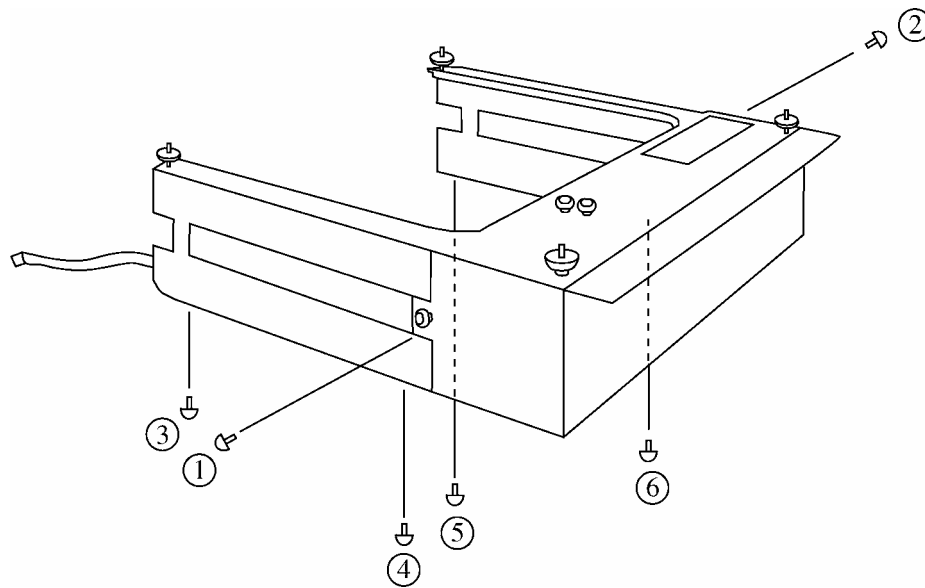
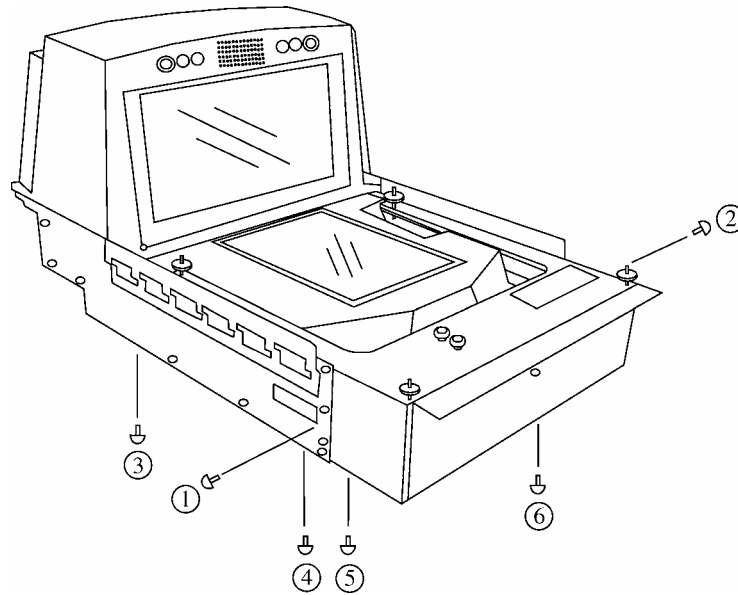

Figure 6.3-2
Figure 6.3-5
- (2) Remove and save left screw ① and right screw ②. (See Figure 6.3-2.)
- (3) Remove and save screws ③ to ⑥. (See Figure 6.3-2.)
- (6) Use the six screws that have been removed in steps (2) and (3) as shown in Figure 6.3-2 to secure the scale unit. (See Figure 6.3-5.)